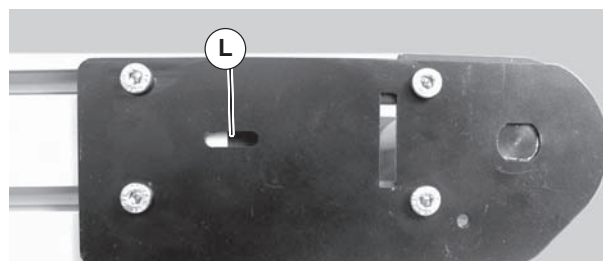

Figure 10
- Extend head plate assembly until proper tension in the belt is achieved. If proper tensioning can not be obtained before the belt life indicator is all black (Figure 10, item L) the belt must be replaced.